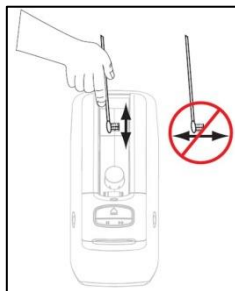

Figure 2
5. Refer to Figure 2. Using the cleaning swab and vertical strokes, clean the gold media cartridge sensor pins, which are visible at the back of the media cartridge slot. Allow the solution to evaporate before proceeding.